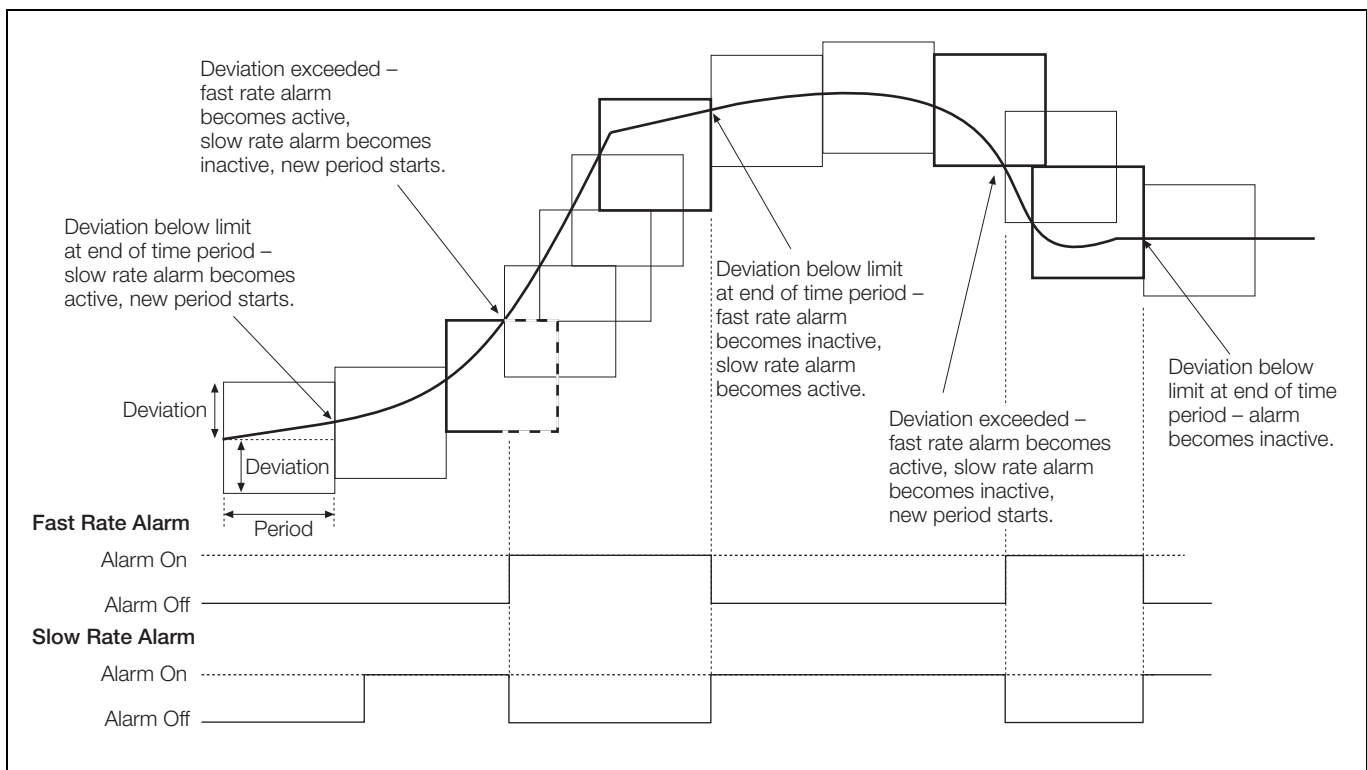

Fig. 6.14 Fast-/Slow-Rate Alarms
- Fast/Slow rate – see Fig. 6.14, page 82